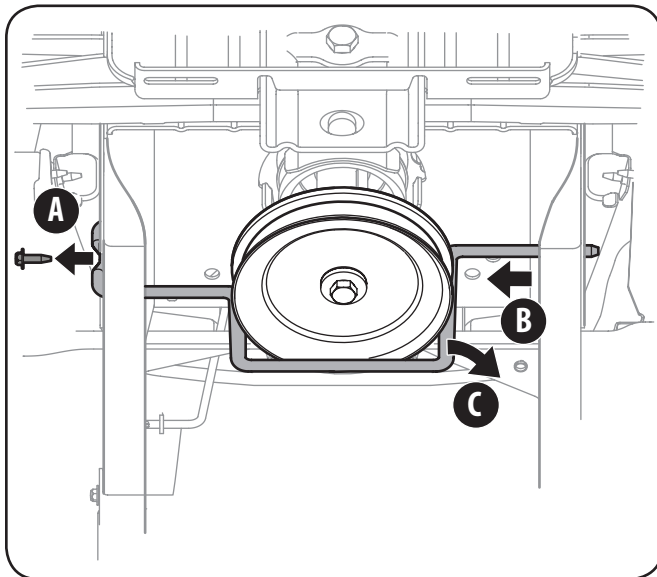

Figure 3-9
- If your tractor is equipped with a **Manual PTO**, and the belt keeper rod wasn't removed from the tractor when the deck was taken off, remove it before proceeding to the next step. See Figure 3-9.